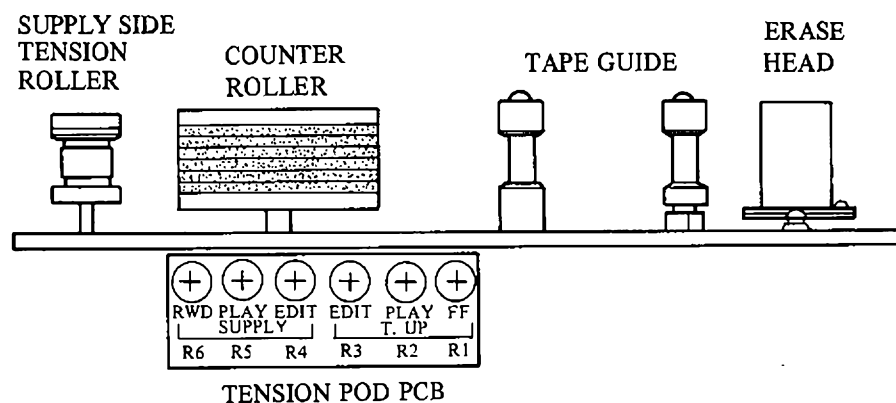

Fig. 4.9
- 4) With putting G24S/G16S on the horizontal position, pull the “Panel Lock Release Knob” on the Controller down to open up the Controller panel. (open the Controller panel fully to see and calibrate the pots of TENSION POD PCB) (shown in Fig. 4.9).